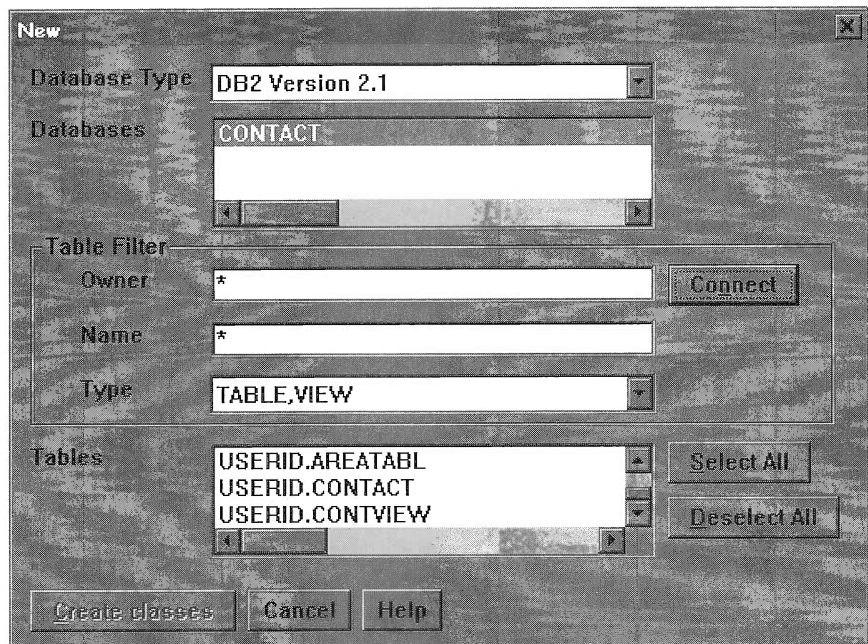

Figure 194: Create classes dialog box
- ☐ Select all the tables in the Contact database by selecting the **Select all** push button as shown in Figure 194. This selects:
Figure 194 shows the Data Access Builder for Windows dialog box. The OS/2 version of the dialog is very similar, without the Database Type and Table Filter areas.